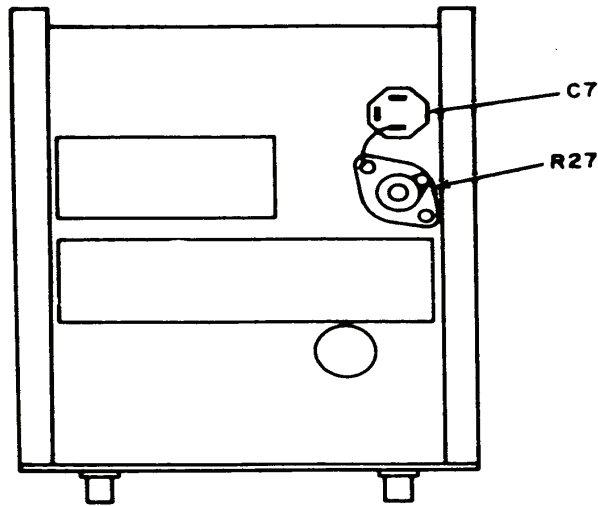

Figure 3. Model 450A.
a. Performance Check. Connect multimeter to junction of R27 and C7 (fig. 3) and chassis ground. If multimeter does not indicate between 6.24 and 6.36 Vdc, perform **b** below.
b. Adjustments. Adjust R27 (fig. 3) for a 6.30 V indication on multimeter (R).